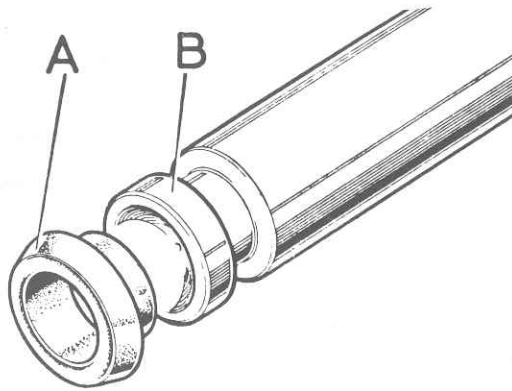

Fig. 9.30. Correct location of piston seal
- 7 Lubricate the new seals and the cylinder barrel with brake fluid and fit the seal into the piston groove with the larger outside diameter of the seal facing away from the pushrod end of the piston (see Fig. 9.30).